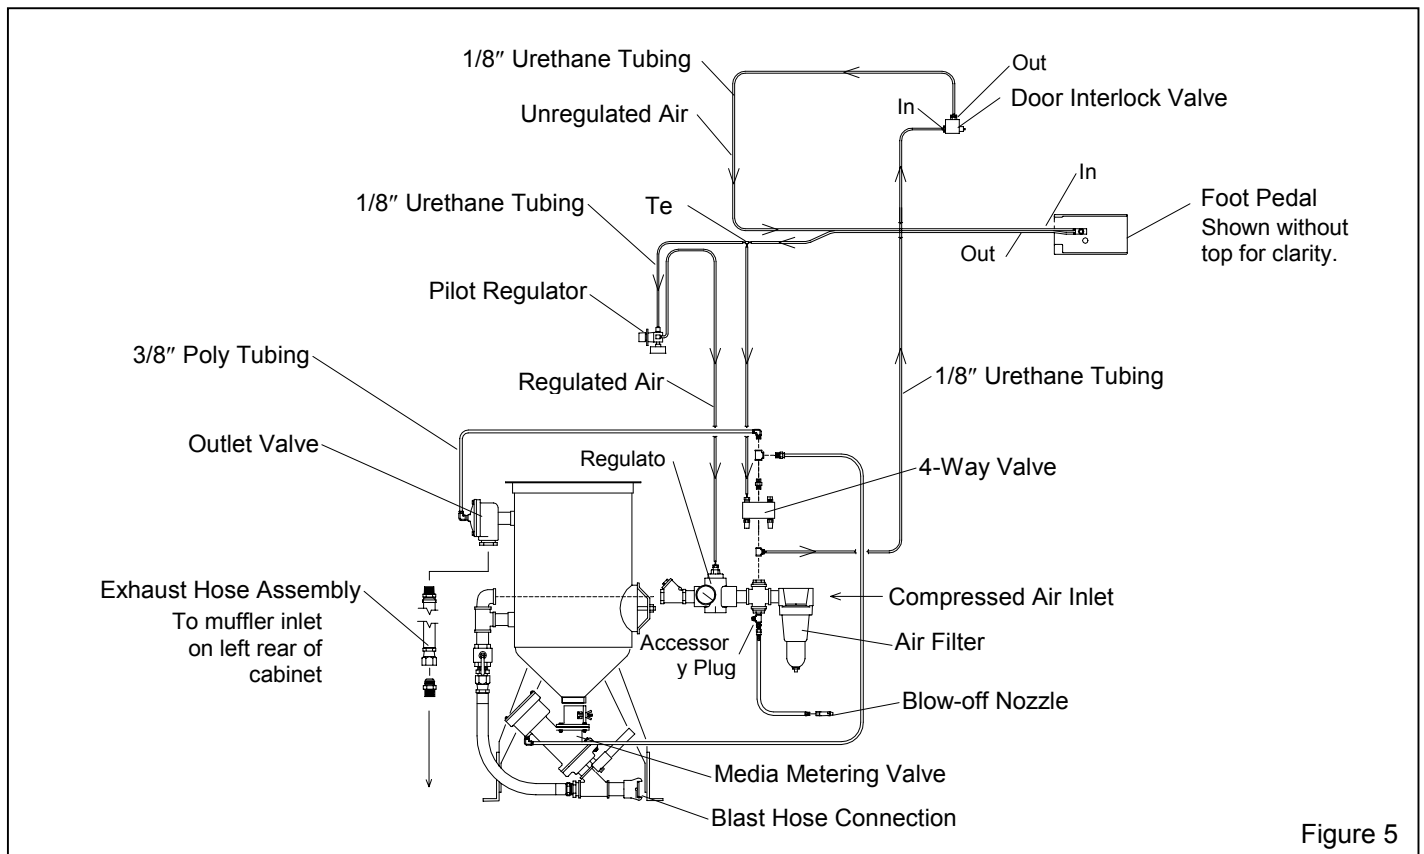

Figure 5
2.1.3 See Figure 1 (and 2 for optional reverse pulse collector) for the general arrangement and Figure 5 for control line schematic. Select a location where compressed air and electrical service are available. The cabinet location must comply with OSHA and local safety codes. Allow for full access to all doors and service areas, and for efficient handling of large parts. Provide enough clearance in front of the dust collector to remove the dust drawer without tipping. Ideally, locate the blast machine directly behind the cabinet with the blast hose connection toward the cabinet. The reclaimers may be rotated on the blast machine to enable hose connections with as few bends as possible. Determine the best location, and position all units before final assembly.
2.7.1 Attach the 1/2" blow-off hose coming from the front right cabinet hopper, to the compatible fitting on the blast machine piping, between the air filter and regulator. See the schematic in Figure 5.
2.10.1 Uncoil the 1/8" urethane control tubing, from under the cabinet. The end of each tubing is numbered 1, 2, 3 or 4. Connect the tubing to the adaptor with the corresponding number on the pressure regulator, piping, and 4-way air valve. Check the schematic in Figure 5 to confirm the connections.